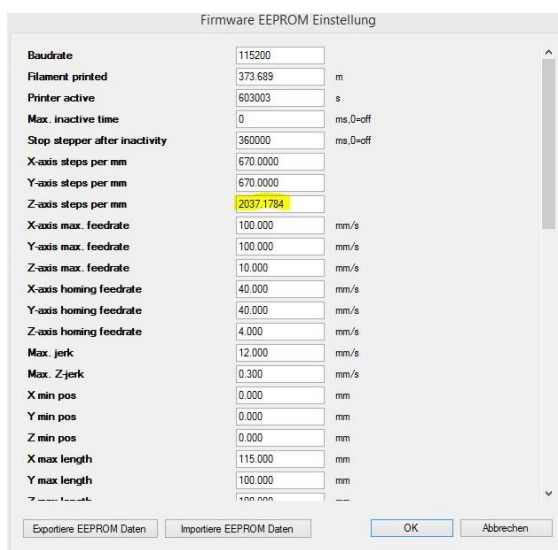

Abb. 15: Z-Achse, Steps per mm
- **Z-axis Steps per mm** (Abb. 15)